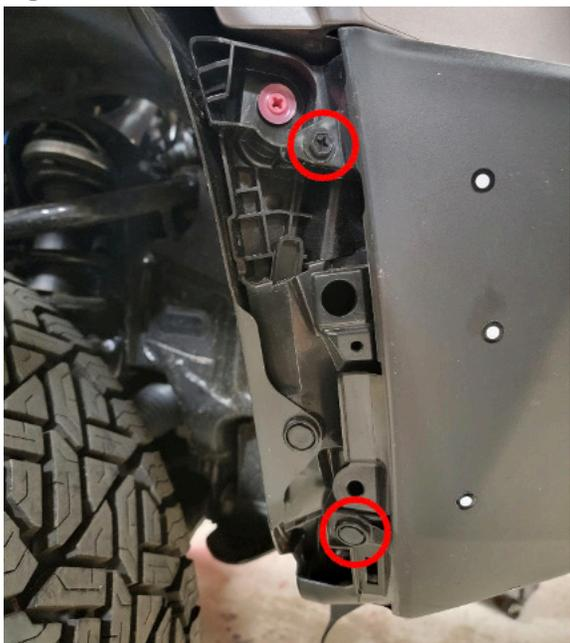

Figure 9.
8. Remove the 1x 10mm bolt and 1x push pin from underneath the fender trim to loosen the bumper. Figure 9.